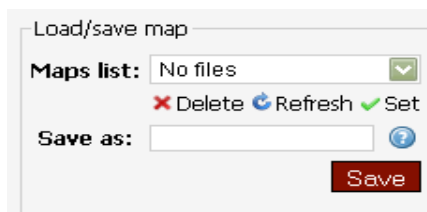

Fig. 55: Left menu of synoptic map - map loading and saving
- d) Load/ save map - allows for saving a map and loading a previously saved synoptic map (fig. 55).